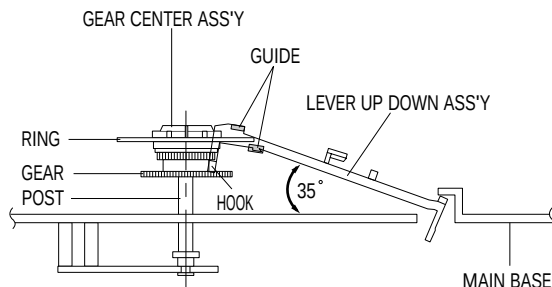

Fig. 2-30 Lever Up Down Ass'y Removal
- 1) Insert the Lever Up Down Ass'y ① in the rectangular holes on Main Base as shown in Fig 2-30.
- 2) Lift the Lever Up Down Ass'y ① about 35°.
- 3) Insert Ring of the Gear Center Ass'y ② in the Guide of the Lever Up Down Ass'y ①.
- 4) Insert the Gear Center Ass'y ② in the post on Main Base.
- 5) Push down the Lever Up Down Ass'y ① for locking of the Hook.